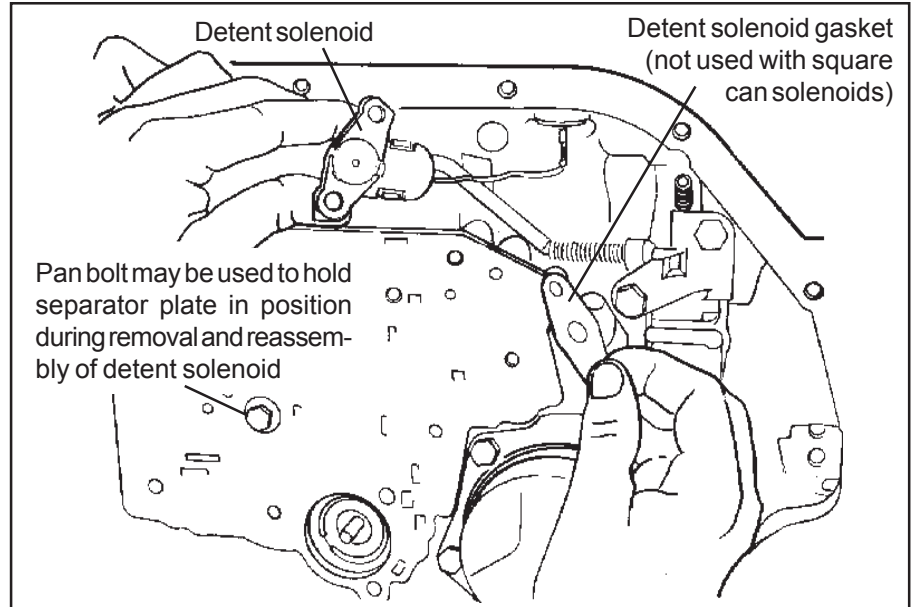

Figure 8
STEP 5. Use one (1) pan bolt to hold the separator plate in place while removing the solenoid. Remove the two bolts holding the detent solenoid (See Fig. 8) and allow the solenoid to hang by its wire. Remove the pan bolt and carefully lower the separator plate. Be careful not to loose the six (6) 1/4" steel check balls that are on top of the separator plate. The check balls will be used over again. Carefully remove all gasket material from valve body and oil pan surfaces of the case and valve body. All old gasket material must be removed before the valve body is reinstalled.
Install the plate and gasket against the case and use a clean pan bolt to hold it in position for now (See Fig. 8).